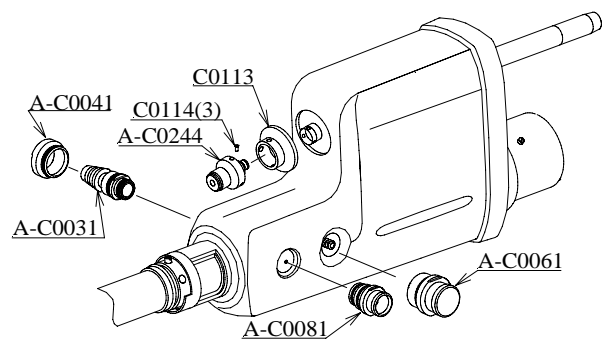

Fig.2-6
4. LG Cable Connector Housing disconnection: (Fig.2-6)